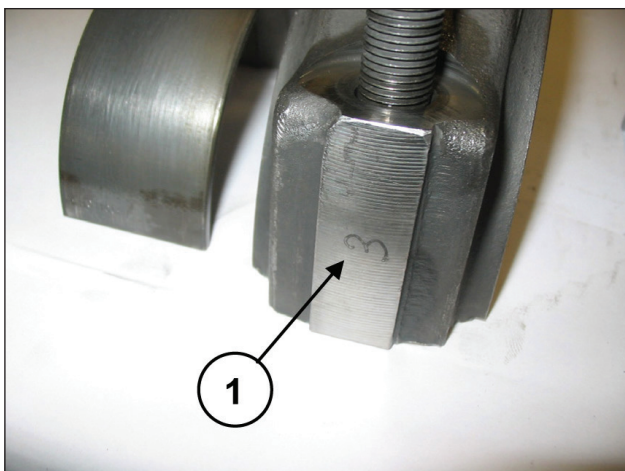

Fig. 18
To avoid possible errors, caps and conrods have been numbered on one side (pos. ①, Fig. 18).